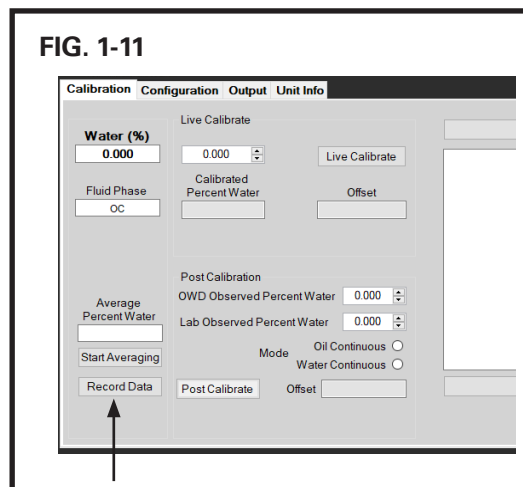

FIG. 1-11
1. Launch OWD Connect. Go to the "Calibration" tab or the "Output" tab and click on "Record Data" button. FIG. 1-11, FIG. 1-12.